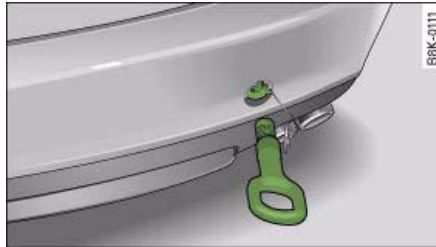

Fig. 252 Rear bumper: Fitting the towing eye
- To detach the cover cap from the bumper, firmly press the lower part of the cap inwards to release it ⇒ fig. 252.